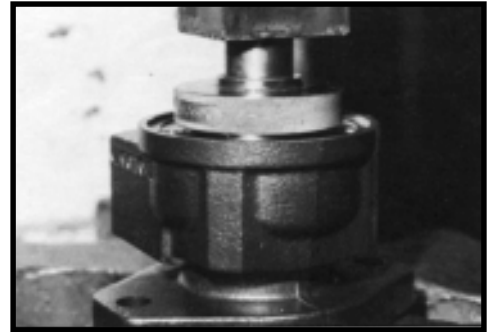

Figure 36
2. The Small Frame Series MG and MF Torqmotor™ inner housing bearing/bushing (13) can now be pressed into its counterbore in housing (18) flush to .03 inch (.76 mm) below the housing wear plate contact face. Use the opposite end of the bearing mandrel that was used to press in the outer bearing/bushing (19). Reference figure 1, "Tools and Materials Required for Servicing" section. SEE FIGURE 36.